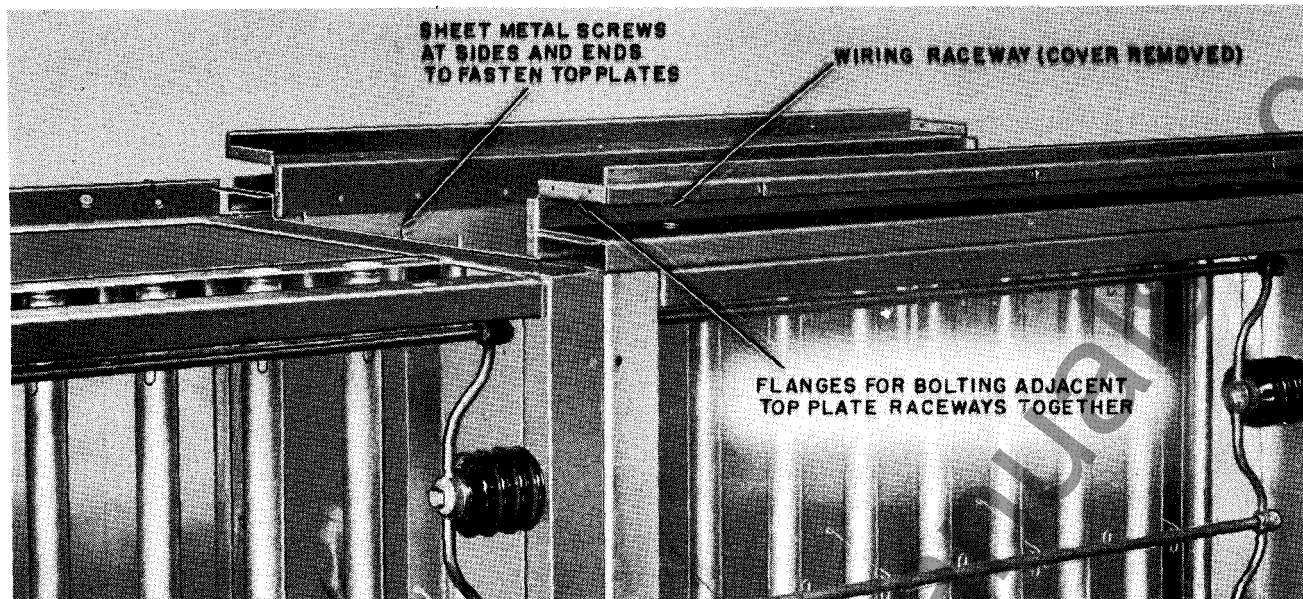

Fig. 8 Assembly of Top Plates (Shows Only One Top Plate in Place)
**Top Plates** (supplied in 36" and/or 24" lengths) are installed as illustrated by Fig. 8. Remove the cover from the wiring raceway on the outlet air side prior to installation. Top plates should be securely attached to the frames with sheet metal screws. Fasten ends of wiring raceway together with small bolts and nuts. Screws, bolts and nuts are included in the bag with each top plate. Top plate covers should be installed after installation of high voltage wiring.